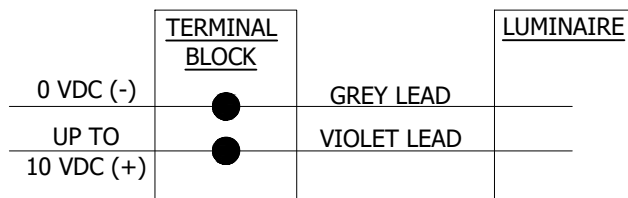

FIGURE 8
③ DIMMING CONTROL INSTRUCTIONS ARE FOR REFERENCE SINCE LUMENS SETTINGS ARE PRESET BY MANUFACTURER FOR ALL STOCK FIXTURES. FOR WIRED DIMMING CONTROLS, ATTACH DIMMING LEADS PER WIRING SCHEMATIC. REFER TO INSTALLATION INSTRUCTIONS FOR BOLT TORQUES. DO NOT OVER TIGHTEN BOLT. SEE FIGURE 8.